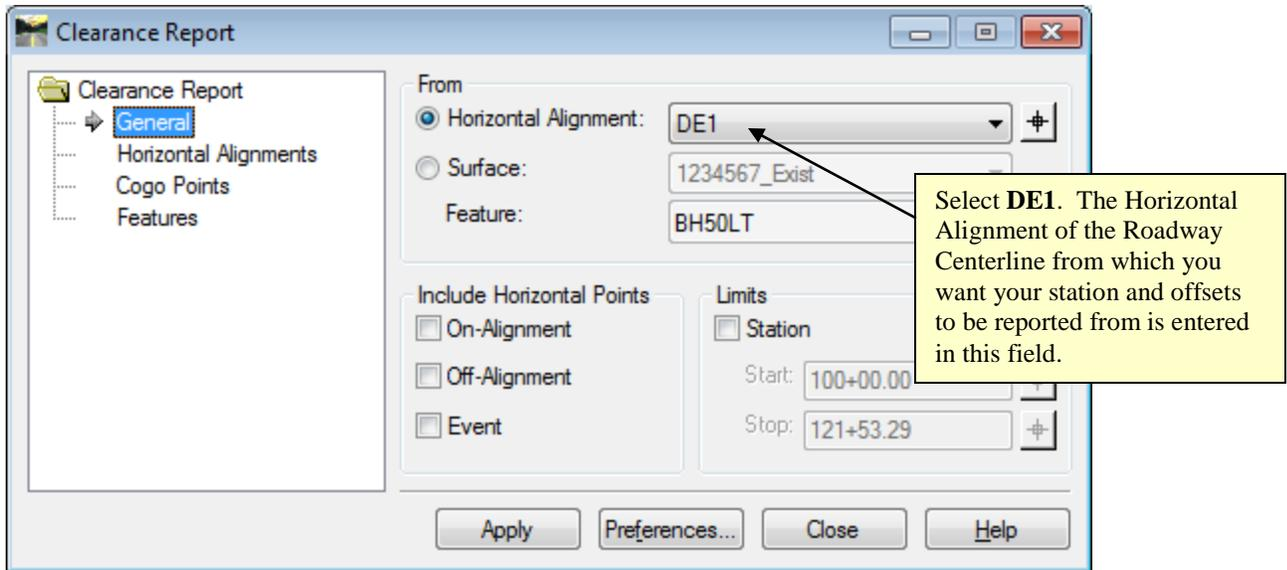

Figure L5-10 Clearance Report
- Ensure your entries match those shown in *Figure L5-10*.